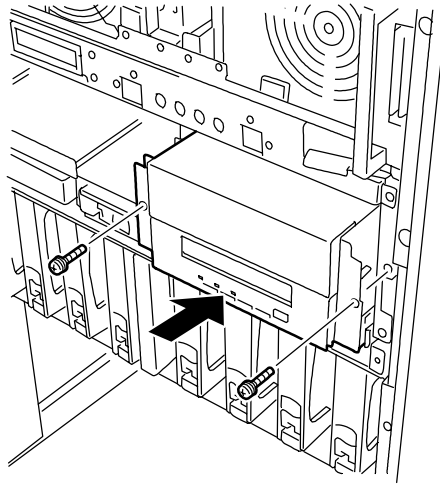

Figure 4-49. Installing the Device into the BSU Chassis
12. Secure the 5 1/4-inch Device Tray to the front of the BSU chassis with the two screws removed in step 5 above, see Figure 4-49.